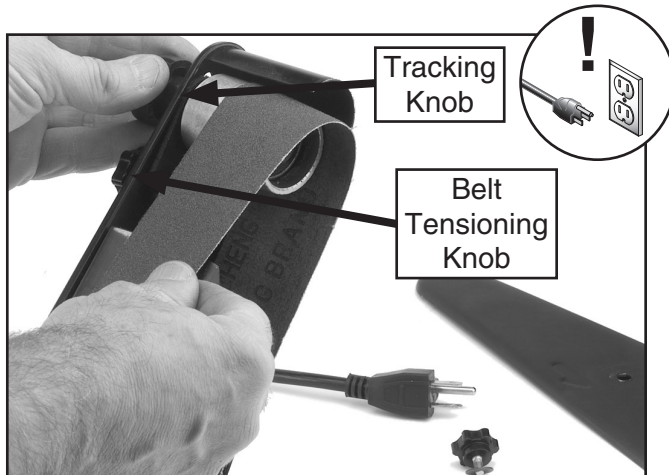

Figure 9. Installing belt.
3. Slide the belt onto the drive drums as shown in **Figure 9** and tighten both the tensioning knob and the tracking knob. The tensioning knob should be completely tightened.